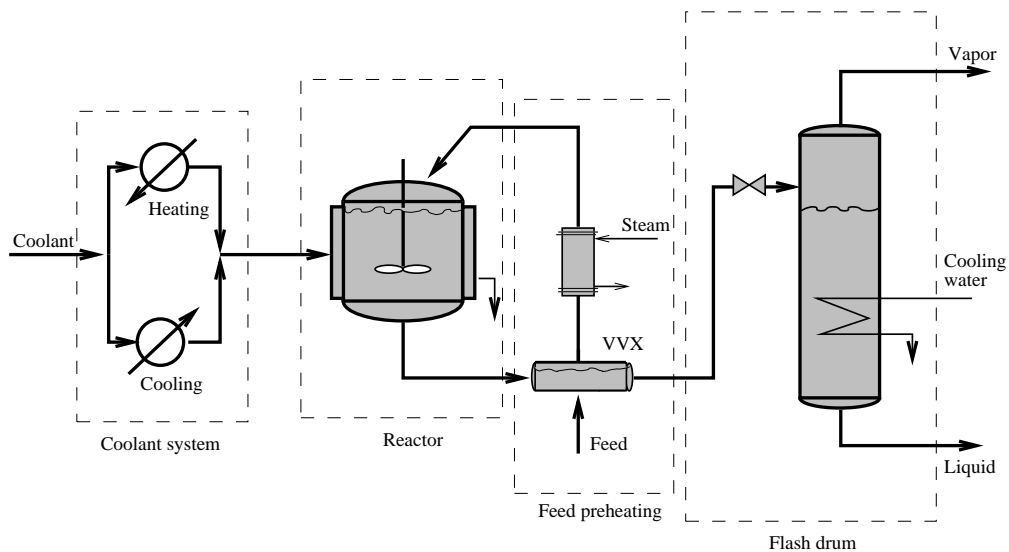

Figure 2 A chemical process.
9. A process section is shown in Figure 2, below. A simple exothermic reaction $A \rightarrow B$ takes place in the tank reactor (CSTR). The reactor feed is preheated, first by the hot reactor effluent and then by steam. Coolant, flowing through a jacket around the reactor, removes the heat generated by the reaction in order to maintain the temperature of the reacting mixture at the maximum allowable. The coolant is provided with two branches, one of which is cooled while the other is heated. The rates of cooling and heating are constant. With this configuration we can fine-tune the temperature of coolant before it enters the jacket of CSTR. The reactor effluent is first cooled by the feed in the feed effluent heat exchanger and subsequently it is flashed in the flash drum. There, it is separated into two streams, a vapor and a liquid, which are further processed in separate units. Cooling water is provided to regulate the temperature in the drum. Develop a process control system structure for the process.